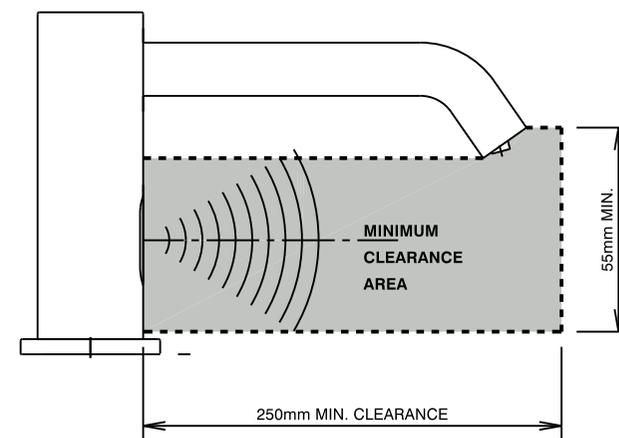

Fig.8
- * Sensor beam must not be obstructed within the range shown in Fig. 8.